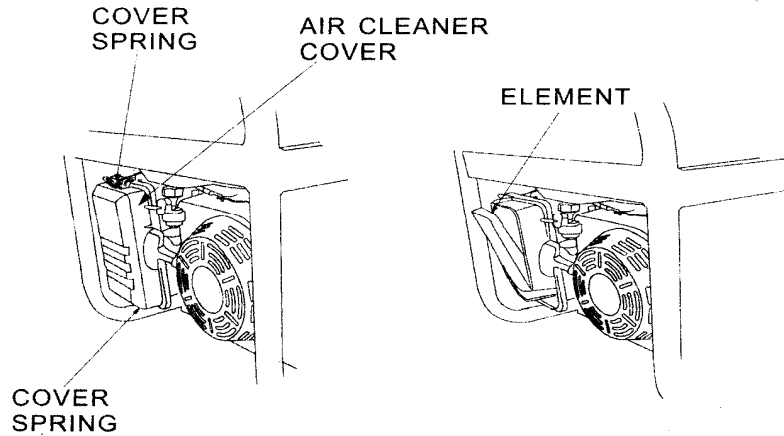

Figure 18- Removing the air cleaner casing.
1. Unhinge the clasps at the top and bottom of the air cleaner cover (see *figure 18*).